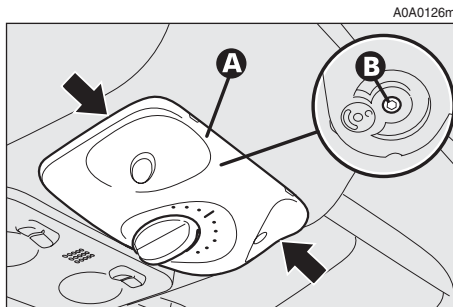

fig. 157
– apply leverage in the points shown by the arrows and remove the plate (**A-fig. 157**);